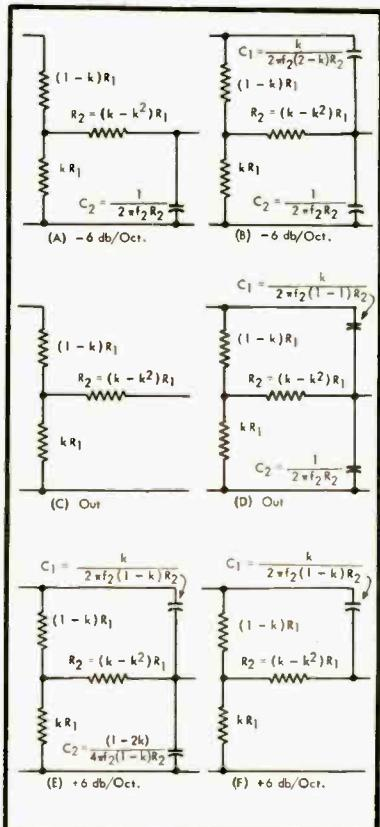

Fig. 4. Circuit configurations and formulas for treble equalizer section.
For example, if a 6-db-per-octave droop is chosen, the treble equalizer reduces to the circuit of (A) in Fig. 4, where  $R_1$  is the total resistance of the unshunted resistive divider. This is merely a circuit with a mid-frequency transmission  $k$  and a high-frequency droop corresponding to that of a resistance  $R_2$  working into a capacitive load  $C_2$ .
If a 6-db depressed high-frequency plateau is chosen, the circuit of (B) in Fig. 4 is applicable. In the region of the nominal 3-db frequency, a capacitive voltage divider with approximately 3 db more loss than that of the resistive divider begins to take over.
For a 6-db elevated plateau, the circuit of (E) in Fig. 4 is applicable, in which the capacitive voltage divider has approximately 6 db less insertion loss than that of the resistive divider.